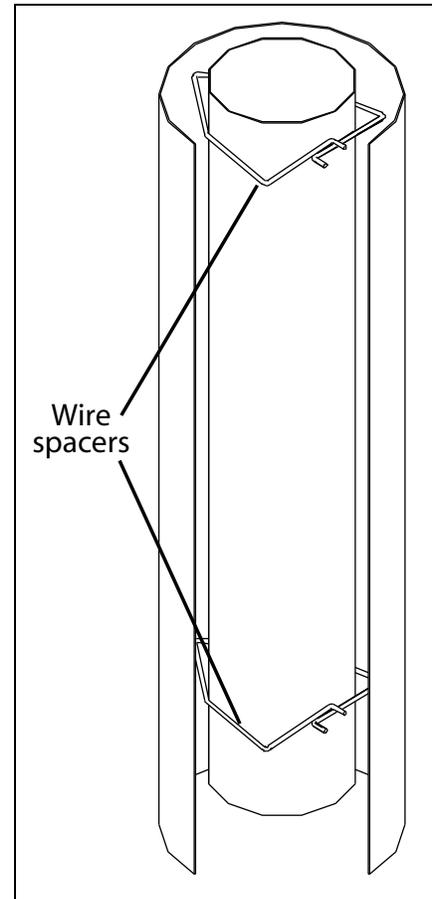

Figure 2
11. Attach the flexible liner to the vent termination cap by placing a small bead of high temperature silicone on the vent termination and slide the flex liner onto the vent terminal and secure with three (3) sheet metal screws evenly spaced.
12. Dress the flex liner through the wall thimble and attach the vent terminal to the outside of the house using four (4) wood screws provided. The use of non-hardening mastic should be used around the vent to ensure a watertight seal.
13. Install two (2) wire spacer around the flex pipe. Slide the horizontal section of pipe over the flexible liner. Ensure the wire spacers are positioned at either end of the pipe (refer to Figure 2 and 3).
18. Install the remaining wire spacers over the flexible liner and install the vertical section of pipe. Ensure the wire spacers are positioned at either end of the pipe (refer to Figure 2 and 3).
19. Place a bead of high temperature silicone on the flue pipe and slide the flex liner over the collar, secure the flex liner with three (3) sheet metal screws evenly spaced.